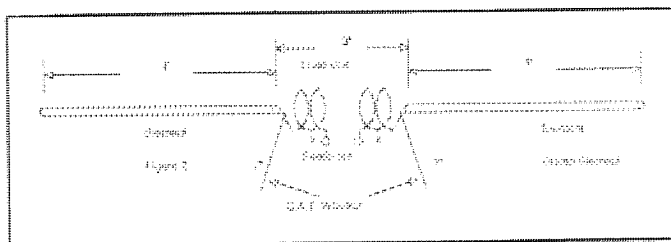

Figure 2
**Driven element construction:** Repeat the construction process for the driven element. Divide the inductor as shown in Figure 2 to provide a feedpoint. At this time, do not resonate the element, since a matching coil will be added to the assembly.
**Feedpoint impedance:** Determine the feedpoint impedance of the antenna (point X-X in Figure 2) either by computation or by direct measurement. ELNEC models with a front-to-back ratio of 15 dB show a feedpoint impedance of about 7.5 W. Now we are ready to design the matching network.